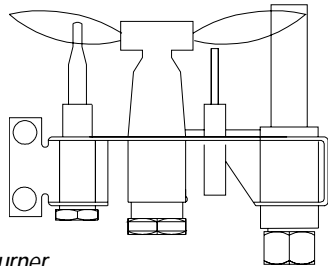

Figure 26. Pilot Burner
2. Adjust pilot screw to provide properly sized flame as shown in figure 26).
Main burner will not light	1. Check wiring (see figure 26). 2. Check wall switch for proper connection.